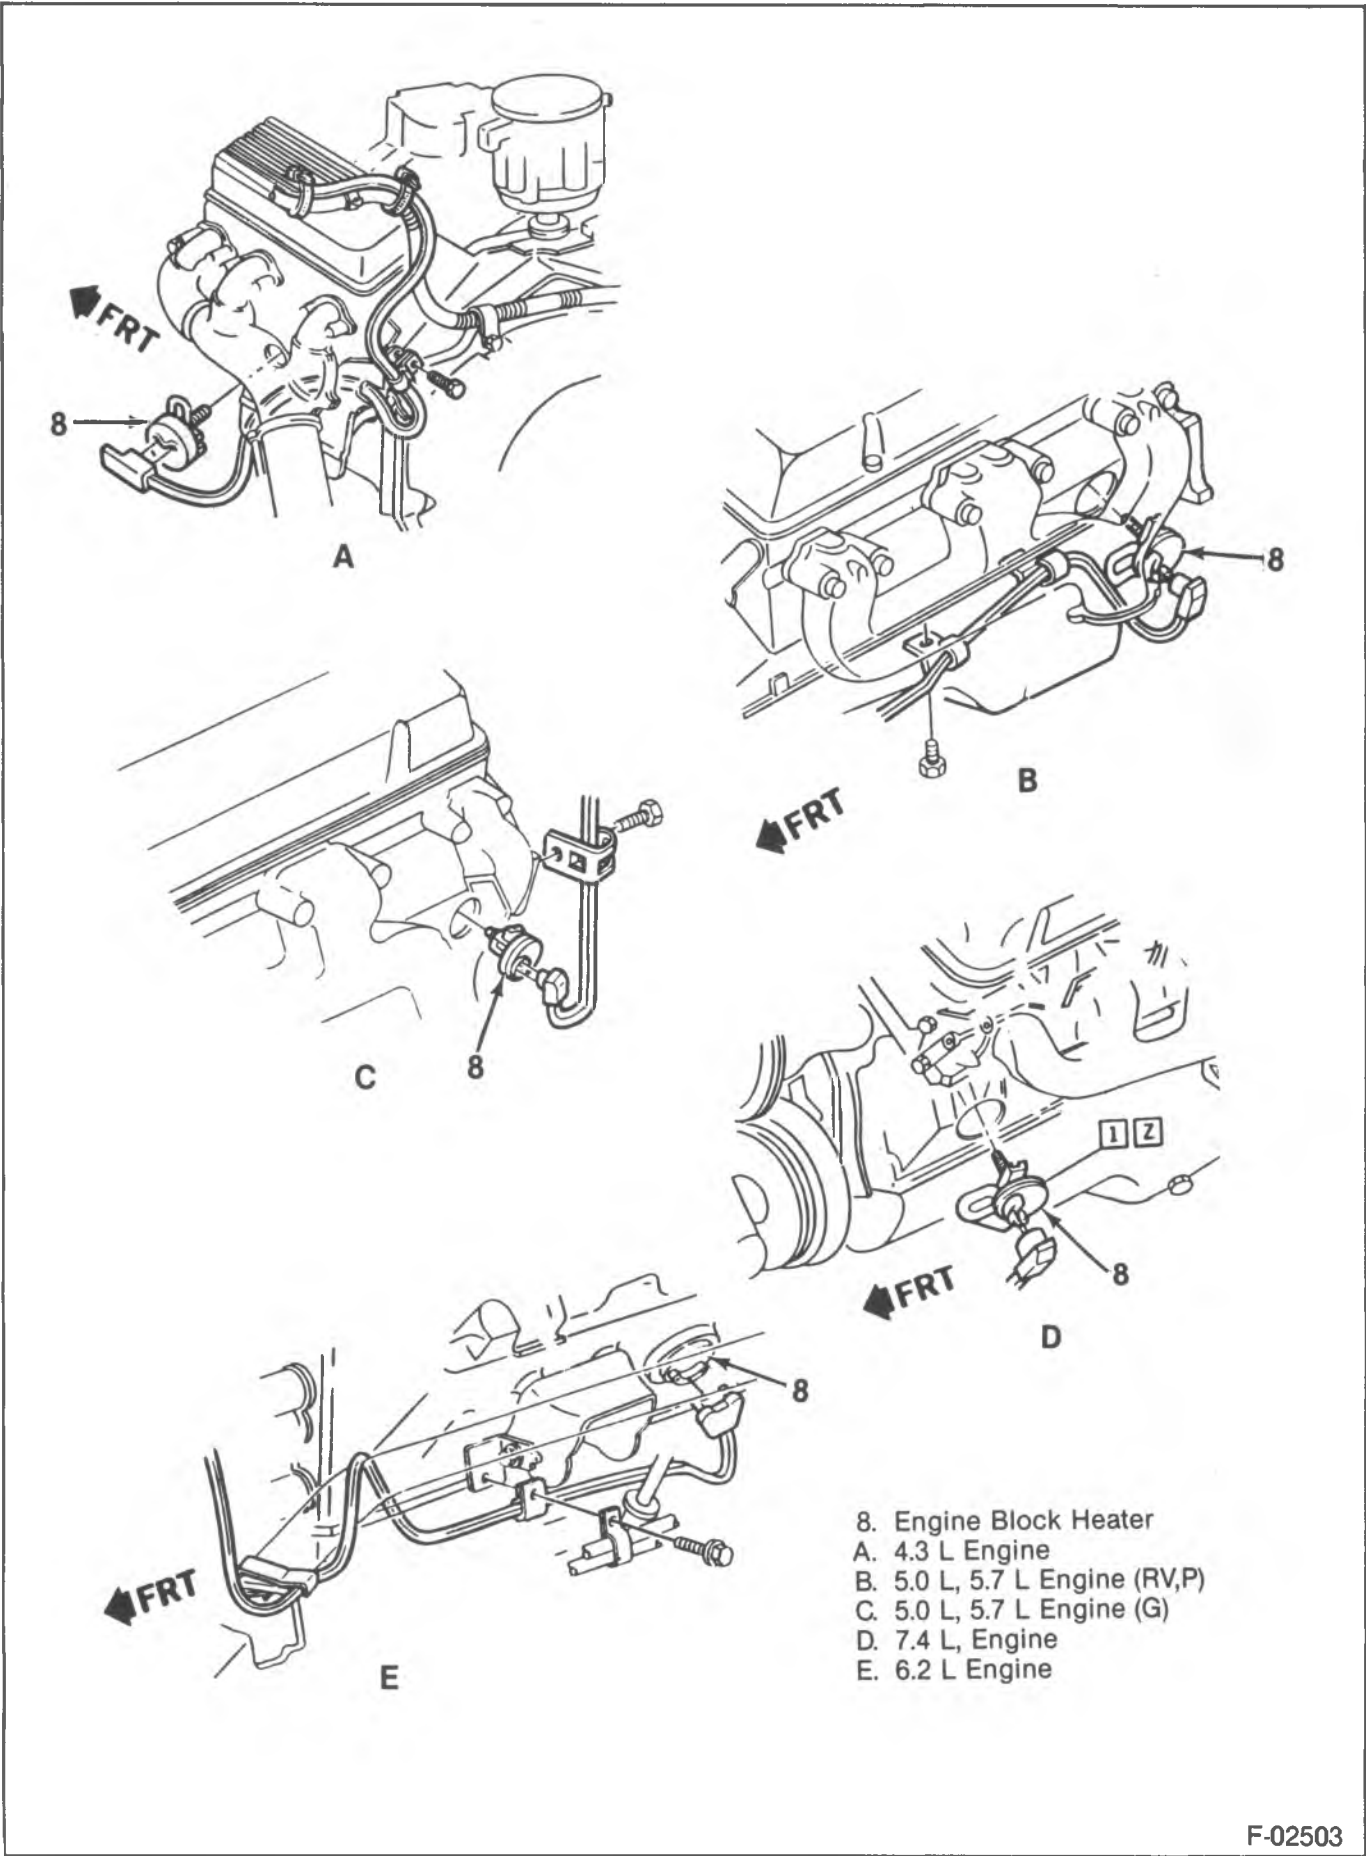

Figure 38—Heater Location
3. Position the block heater as shown for the engine in figure 38.